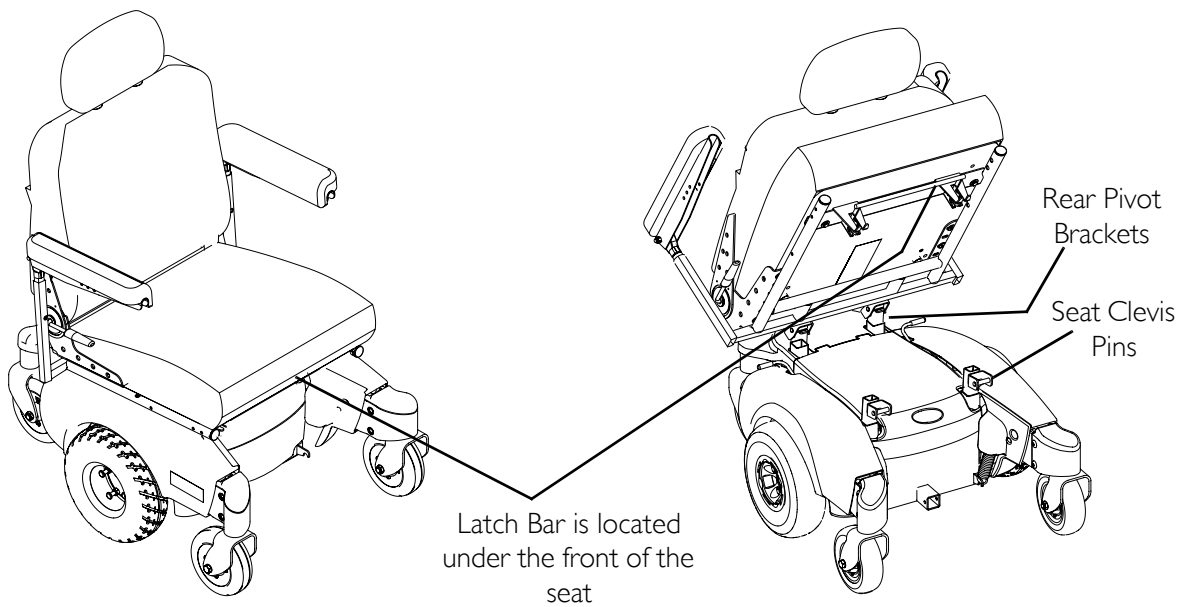

FIGURE 6.2 Removing/Installing the Seat Assembly
NOTE: For this procedure, refer to FIGURE 6.2.
1. Position the seat in the rear pivot brackets as shown in FIGURE 6.2.